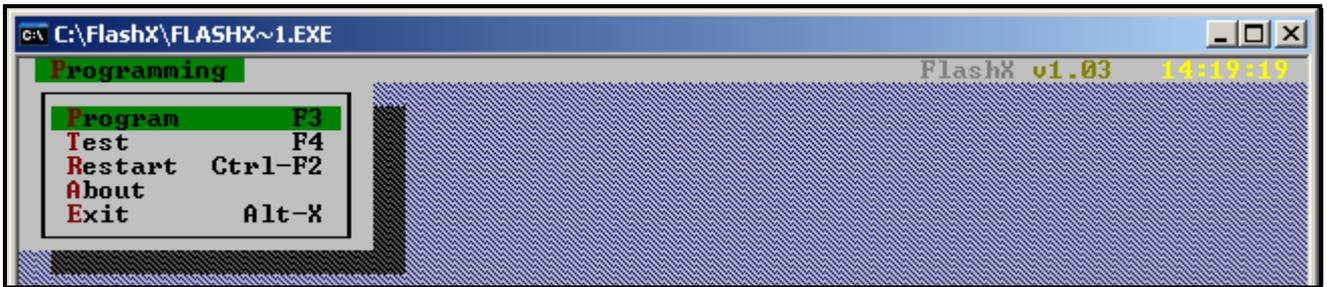

Fig. 2. Start of programming.
5. Select the PROGRAM function in the PROGRAMMING menu (see Fig. 2).